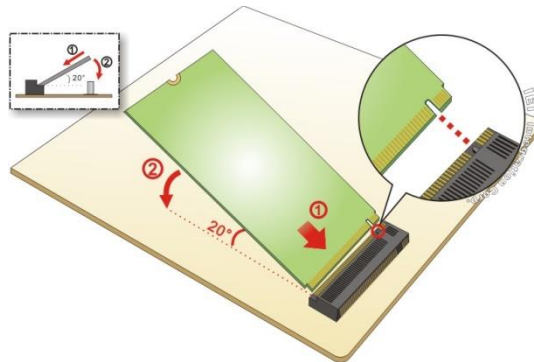

Figure 3-8: Inserting the M.2 Module into the Slot at an Angle
Step 4: Line up the notch on the card with the notch on the slot. Slide the PCIe Mini card into the socket at an angle of about 20° (**Figure 3-8**).